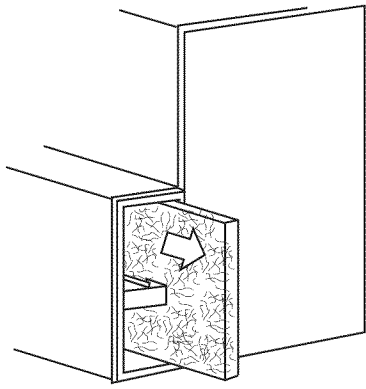

Fig. 16 - Slide Side Filter Out of Furnace
3. Slide air filter out of filter cabinet. Keep dirty side up (if dirty) to avoid spilling dirt. (See Fig. 16 and 17.)